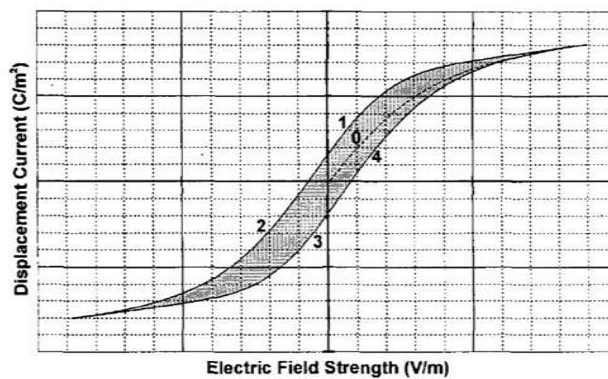

Figure 2 D - E Graph
For measurement purposes, the test capacitor is first depolarised and then charged and discharged through five measurement intervals (0-4) displayed on a D-E graph in Figure 2. At the start of intervals 2 and 4, the supply polarity is reversed. In each of these intervals (T) of 130ms, 1600 samples are taken. The measuring resistance is chosen such that
The output can be given as a C-V graph for each of the five intervals and a single D-E graph (similar to Figure.2).